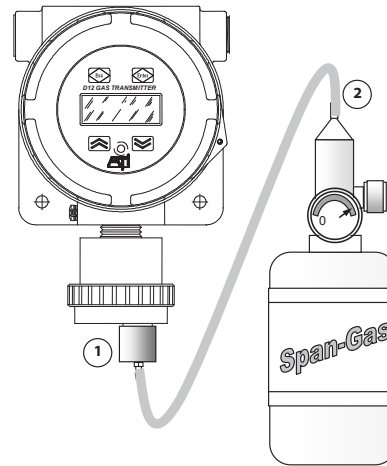

Figure 40: Sensor span cal setup
Referring to Figure 40, slip the calibration adapter onto the exposed end of the sensor and connect one end of the tubing (1), connect the other end of tubing to the cylinder’s regulator (2). Do not open the gas valve until instructed below.